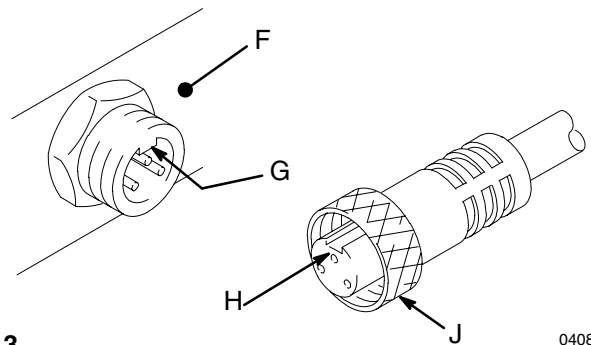

Fig 3
3. Unscrew collar (J) of power supply cord and unplug it from pressure control (F). See Fig 3.
6. Plug in the power cord so the notch (H) in the collar (J) and the tab (G) in the socket align. Screw on the collar. See Fig 3.